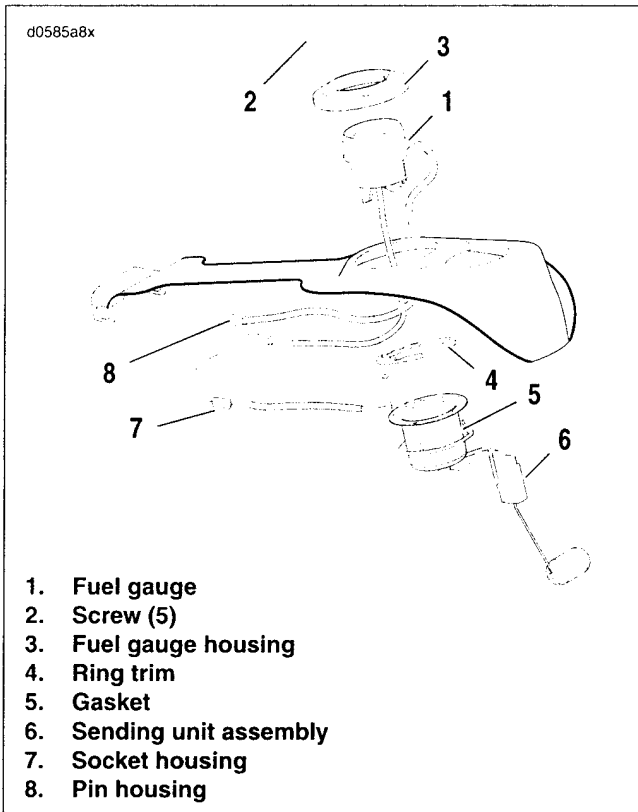
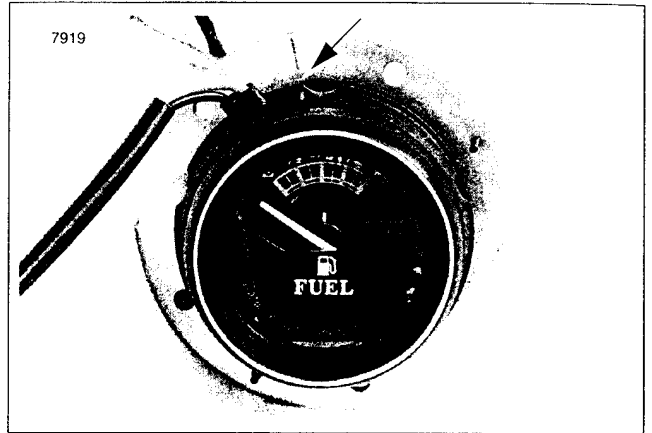

Figure 8-48. Fuel Gauge: FXD, FXDX, FXDXT
Figure 8-49. Aligning First Mark
2. See Figure 8-48. Remove five screws (2) that hold fuel gauge housing (3) in place.
3. Carefully pull fuel gauge (1) up out of sending unit (6) by gently lifting around the edge of the gauge with a screwdriver. Be careful not to scratch tank.
1. See Figure 8-48. Lubricate rubber on bottom half of gauge (1) with rubbing alcohol or glass cleaner.
3. See Figure 8-49. Align mark on bottom of gauge with first scribed mark on sending unit (6 in Figure 8-48.).
6. See Figure 8-48. Install gauge housing (3) using five screws (2). Tighten screws to 18-22 in-lbs (2.0-2.5 Nm).